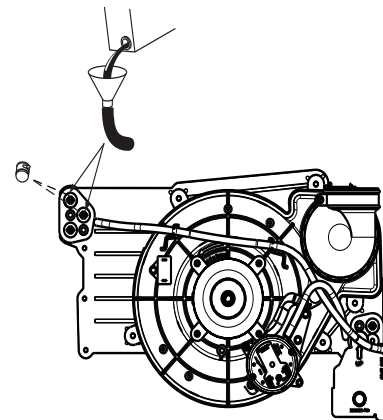

Fig. 59 – Priming Condensate Trap
1. Remove upper and middle collector box drain plugs opposite of the condensate trap. See Fig. 59.